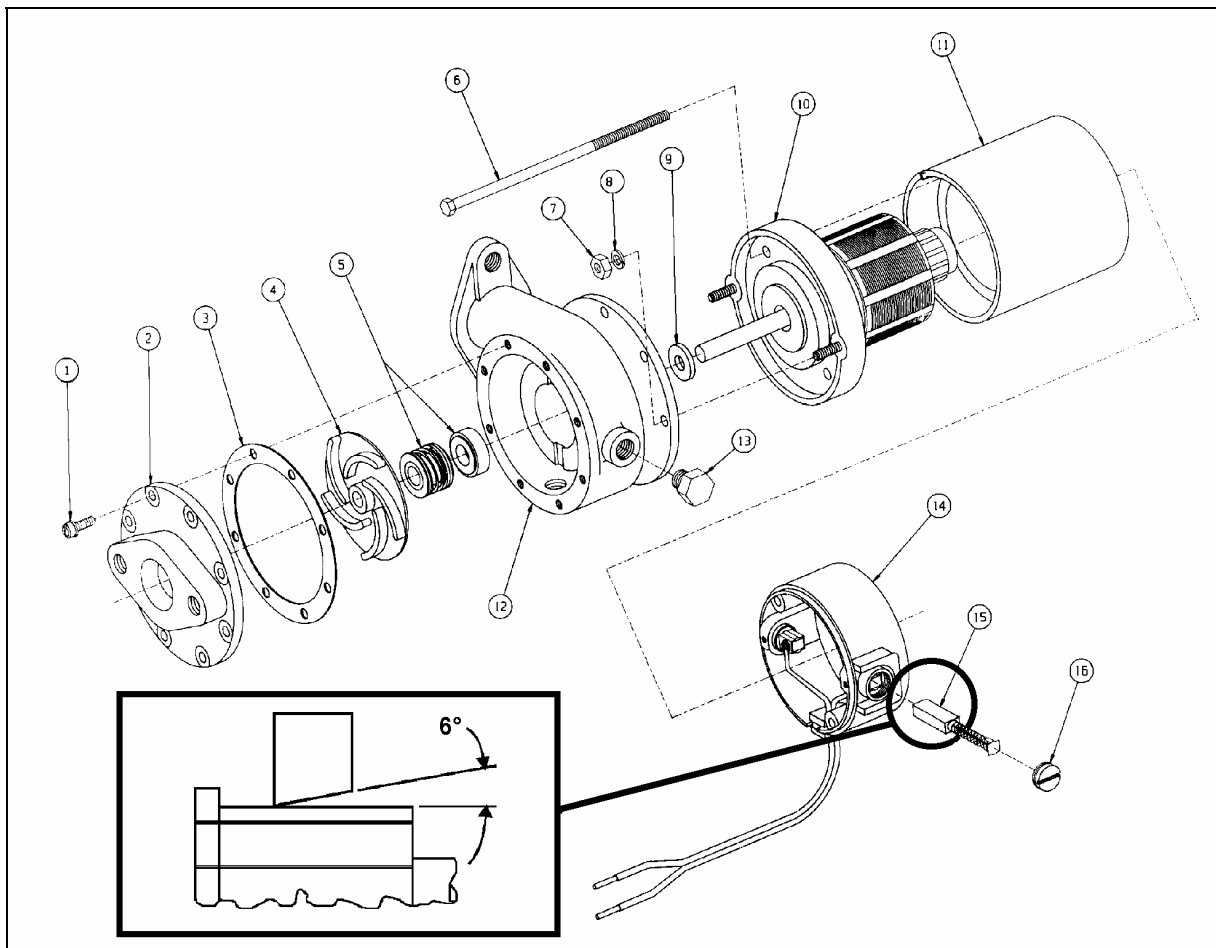

FIGURE 37: WATER RECIRCULATING PUMP
This vehicle is provided with a water recirculating pump which is located in the HVAC compartment (Fig. 37). The water recirculating pump consists of a centrifugal pump and an electric motor which are mounted on a common shaft in a compact assembly.
Refer to figure 37
- New brushes have a six (6) degree angle. The brush should always be inserted so that the angle is open away from the pump end of the assembly (inset, Fig. 37)
Refer to figure 37.